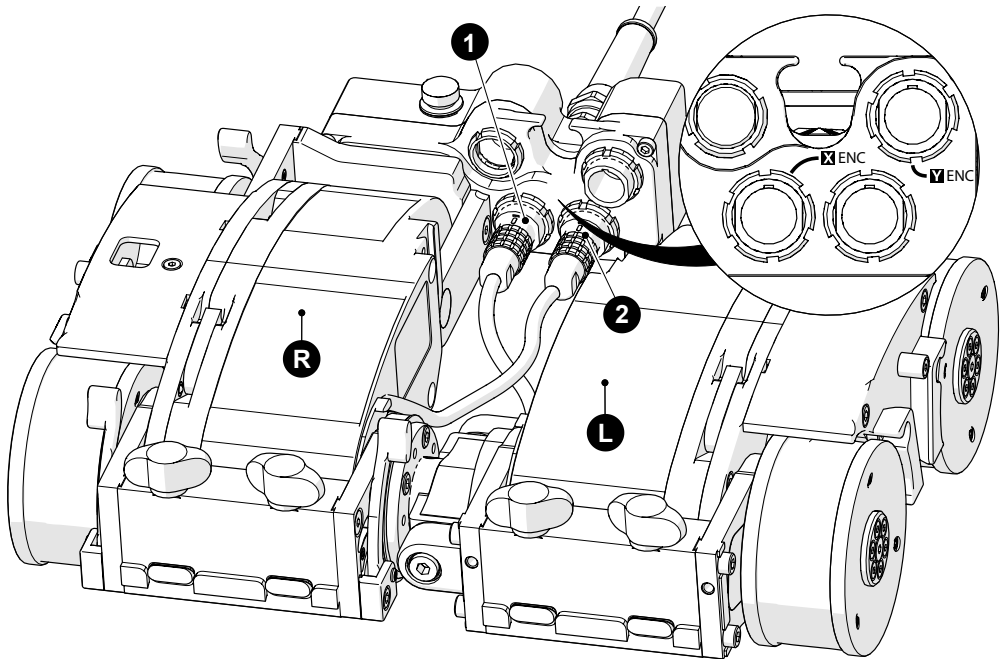

Fig. 334 - Left drive module encoder connection
2. Plug the left drive (Fig. 334-L) module's connector into the umbilical's **X-ENC** socket (Fig. 334-1).
3. Plug the right drive (Fig. 334-R) module's connector into the remaining socket (Fig. 334-2).